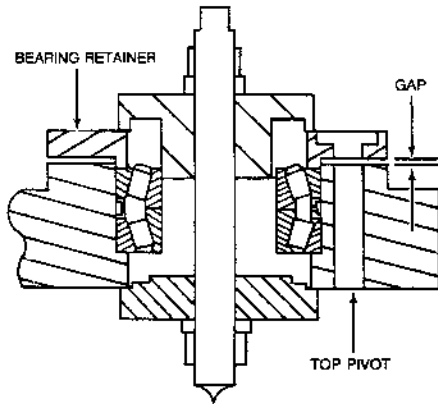
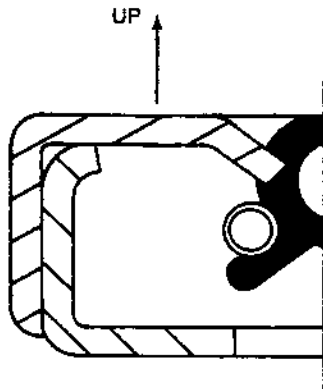

FIGURE 4.
FIGURE 5.
10. Install the bearing driver and plate, refer to Figure 4.
11. Tighten a nut on the screw until the bearing retainer (7) is tight against the upper pivot bearing (9).
12. Measure the gap between the bearing retainer (7) and the top pivot. Make a record of the measurement. Subtract 0.0762 to 0.1016 mm (0.003 to 0.004 inch) from the measurement, refer to Figure 4. Select shims (8) equal to that value.
13. Remove the bearing driver, plate, and bearing retainer (7) from the top pivot.
14. Install the shims (8) and the bearing retainer (7).
15. Install the washers (2) and bolts (1). Tighten the bolts (1) to 124 Nm (92 pound-feet).
16. Install the seal (6) in the bearing retainer (7). The top of the seal (6) must be even with the top of the bearing retainer (7), refer to Figure 5.